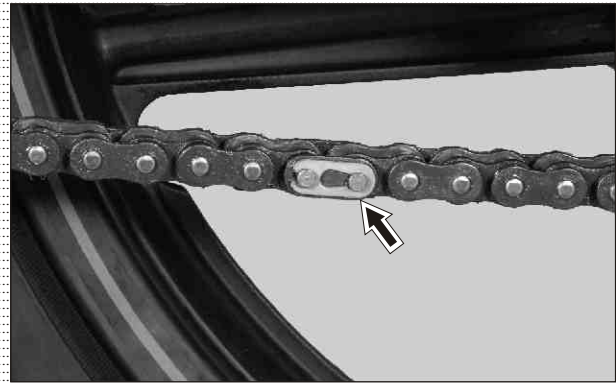

Fig. 6.78
- Disconnect link set chain and remove chain assembly drive. (Fig. 6.78)